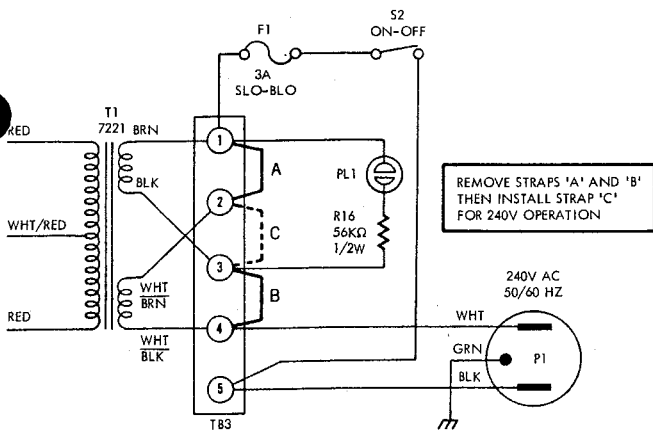

Figure 7. Converting to 240V ac, 50/60 Hz Operation
| Figure 7. Converting to 240V ac, 50/60 Hz Operation | 6 |
- Step 3. Remove strap "A" connecting terminals 1 and 2 and remove strap "B" connecting terminals 3 and 4; solder strap "C" to terminals 2 and 3 (see Figure 7).